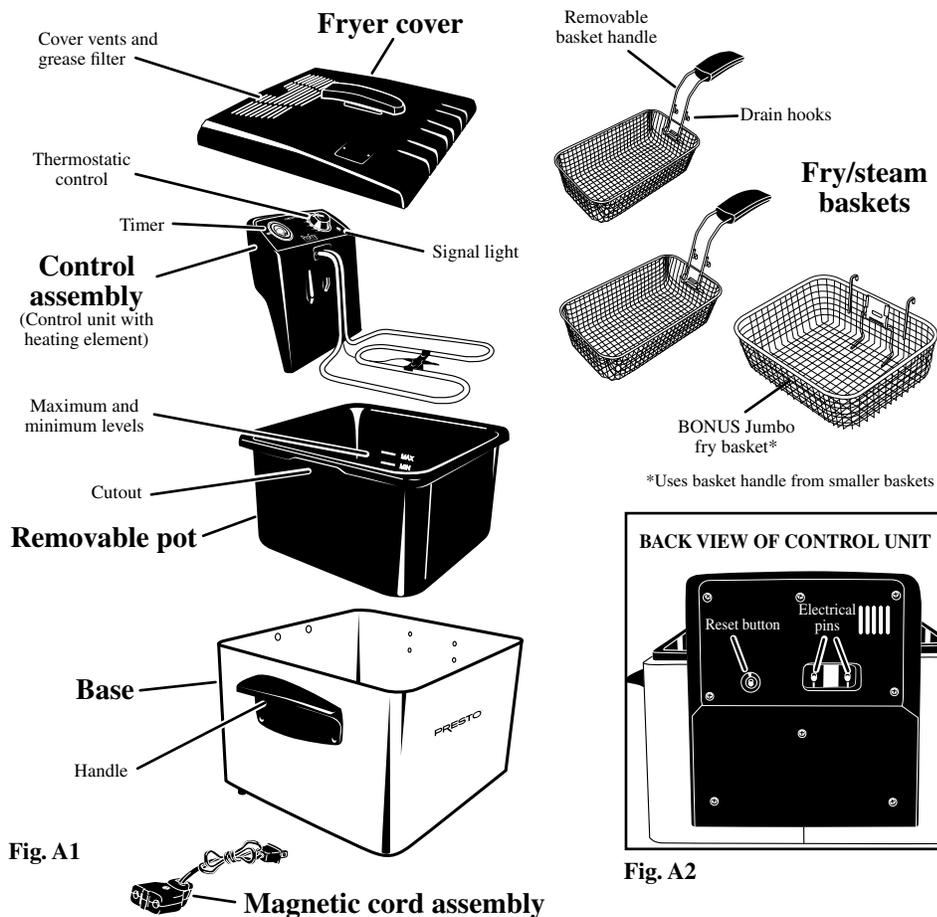

Fig. A1
Become familiar with the various parts of the deep fryer (Fig. A1) and read the instructions carefully.
- ◆ Never use the deep fryer without oil or with insufficient oil, which will cause overheating and damage to the product. Also never exceed the maximum fill level. Using more than the maximum amount may cause the oil to boil over the top of the fryer. The minimum (MIN) and maximum (MAX) fill levels are embossed inside the removable pot (Fig. A1).
4. Fill removable pot with cooking oil up to the MAX level marking, which is located on the inside of the removable pot (Fig. A1, page 2). Your fryer will need approximately 5 quarts of cooking oil. The amount of oil must always be between the MAX and MIN level markings inside the removable pot (Fig. A1). Never exceed the MAX level mark.